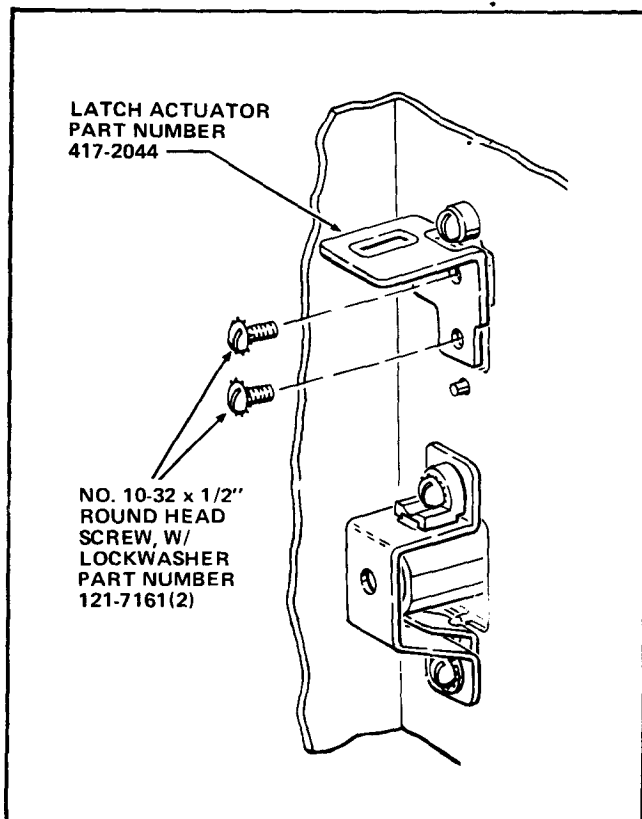

FIGURE 7
8. Install Latch Actuator, Part Number 417-2044, on the Lift Handle Lock Lever Assembly with two Screws W/Lockwashers, Part Number 121-7161, all parts included in Kit. See Figure 7.